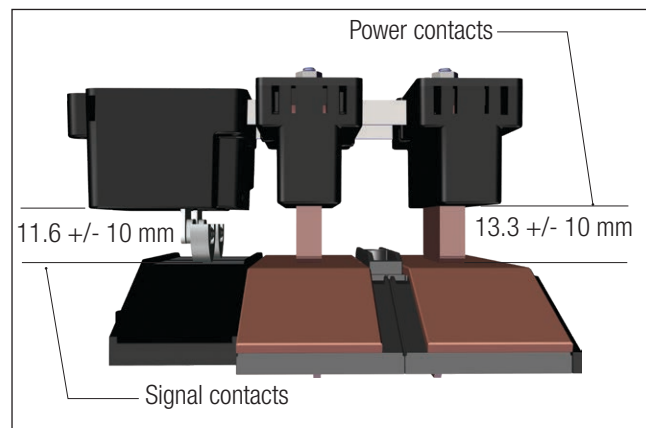

Figure 5-2
- 5.2.2 See **Figure: 5-2** for minimum and maximum lbf values for power and single brushes.